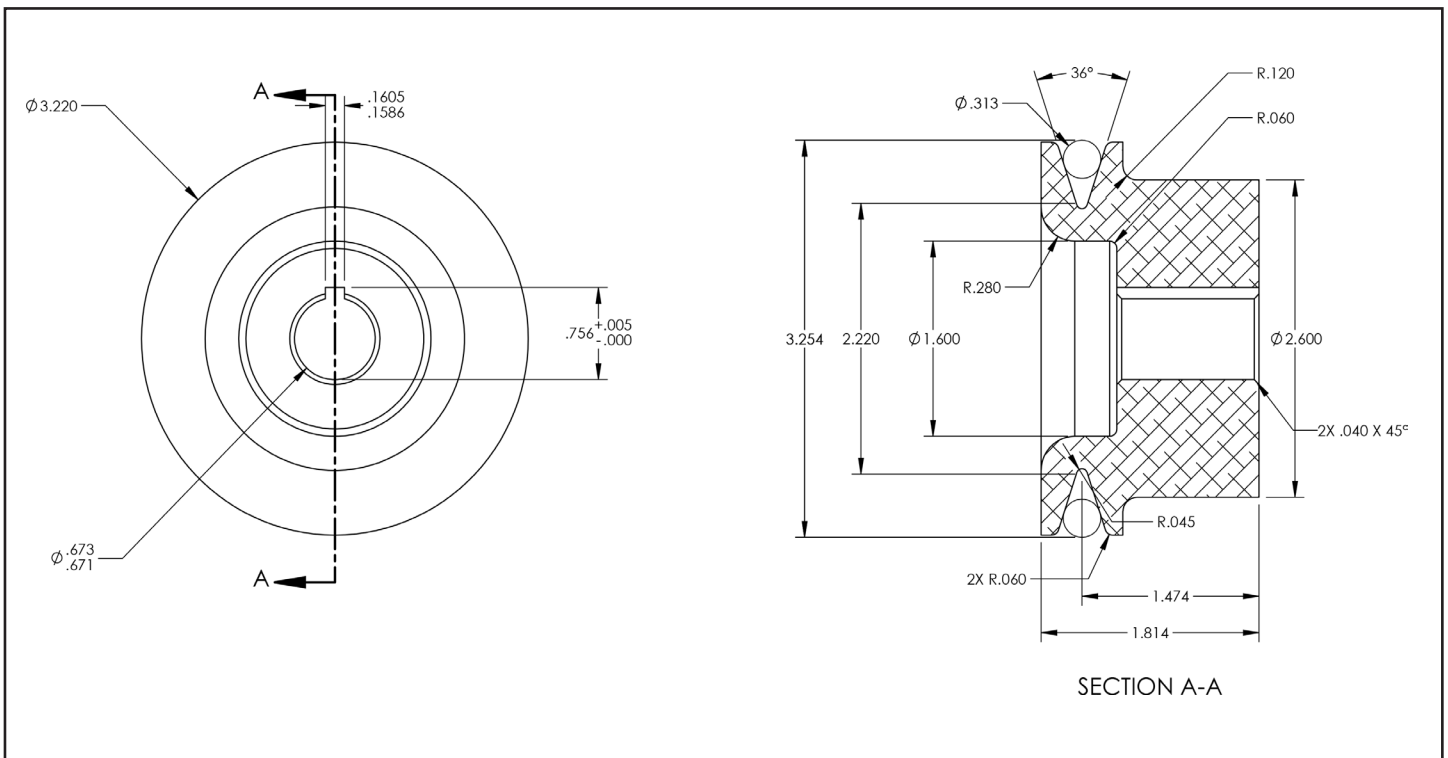
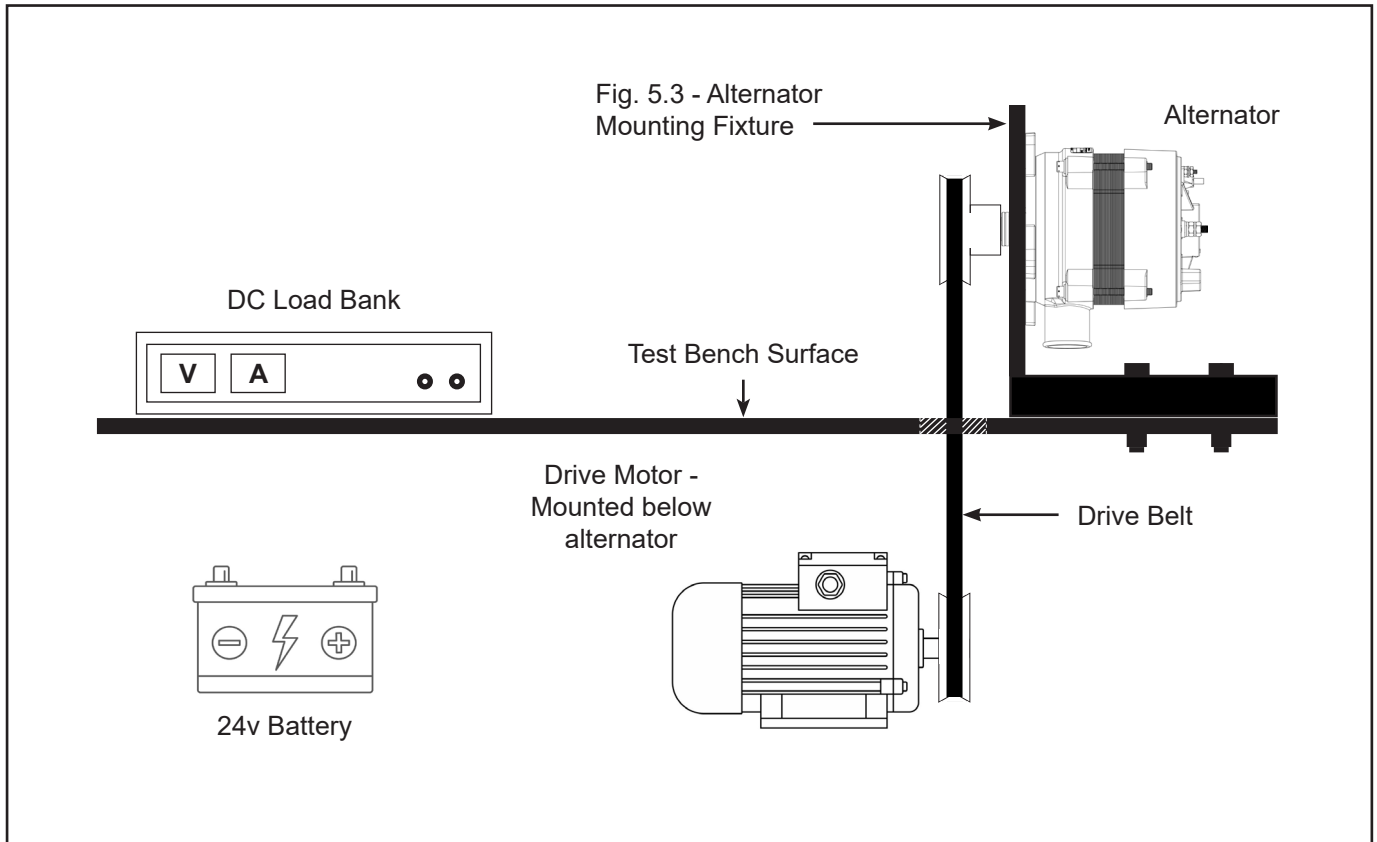
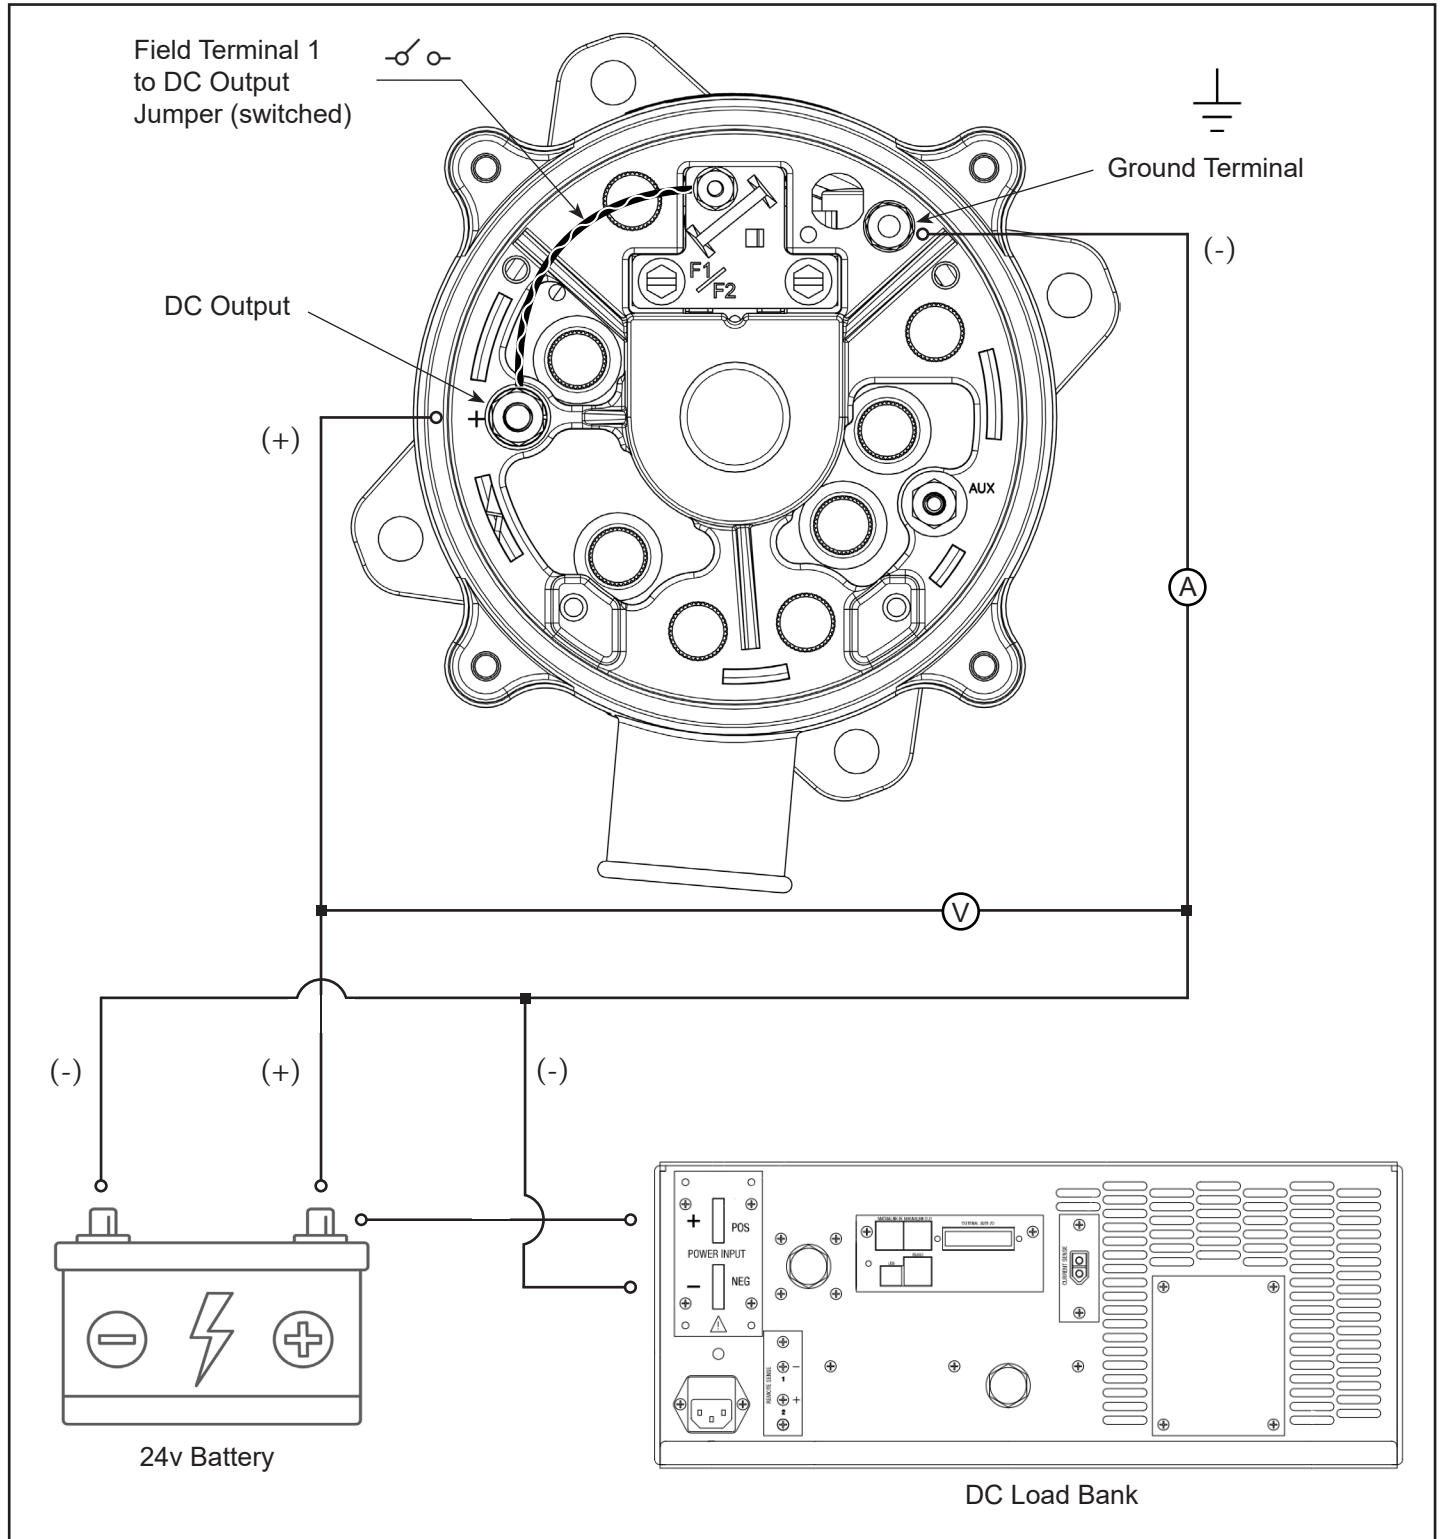

Figure 5.1 - Test Pulley Fabrication Dimensions
Figure 5.2 - Typical Test Bench Setup
Figure 5.4 - ES-10024 Test Setup
- (1) For gear driven alternators, install a fabricated test pulley (Fig. 5.1), washer, and nut onto the alternator shaft. All ES-10024B models shall be tested with the original manufacturer installed pulley.
- (2) If testing a gear driven alternator, torque nut to 30 ft-lbs max to secure the fabricated test pulley.
- (3) Mount the alternator to a test bench that is capable of turning the rotor shaft 10,000 RPM in combination with drive pulley and alternator pulley. See Fig. 5.2 for typical test bench setup.
- (4) Apply 50-80 lbs. of tension to drive belt and check for belt slippage. If the belt slips, increase tension in 10 pound increments, not to exceed 120 lbs. Check drive belt tension with a belt tension gauge. Do not exceed maximum belt tension in Table 6.2 for belt driven alternators.
- (5) Make electrical connections as shown in Figures 5.4 and 5.5.